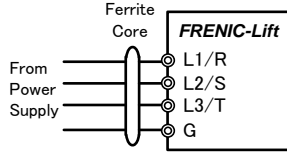

Figure 8.2 Installation for ferrite core
4) If radiated noise emissions exceed the requirement by the standard, place a ferrite core on the input side of the inverter, as shown in Figure 8.2